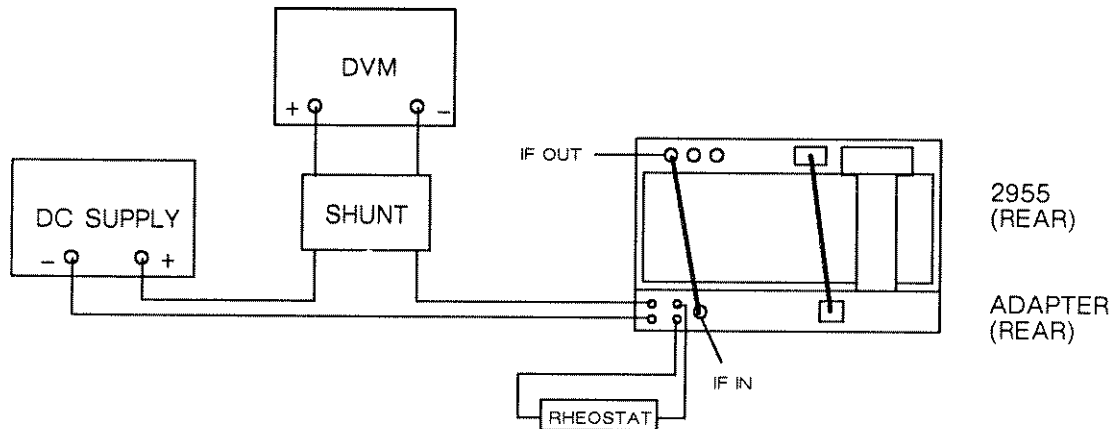

Fig. 5-10 Test equipment connections for DC meter test
- (2) Switch on the equipment and press the CRTS key.
- (3) When the instrument has completed its self-test, select MANUAL TEST.
- (4) Adjust the rheostat to give a load resistance of 10 Ω.
- (5) Set the DVM to read DC volts and then adjust the DC power supply to give a 10.00 V reading on the DVM.
- (6) Check that the voltage displayed on the screen is within $\pm 5\% \pm 100$ mV of the voltage indicated on the DVM.
- (7) Check that the power reading displayed on the screen is equal to the current reading multiplied by the voltage reading.
- (8) Repeat for voltages between 1 V and 25 V.
- (9) Switch off the DC supply, disconnect the DVM and connect the current shunt across its inputs. Then reconnect the DVM in series with the positive supply as shown in Fig. 5-10.